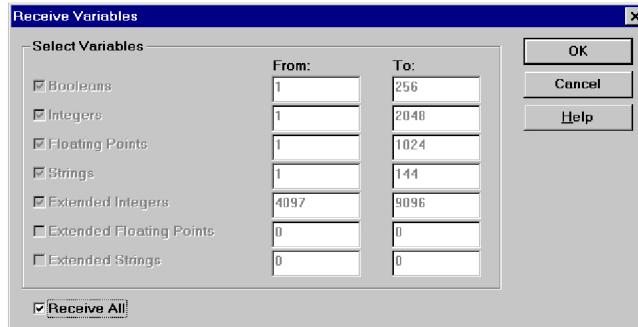

Figure 7.2: CCS Receive All Variables Screen
1. Click **Tools/Receive Variables** to open the screen in figure 7.2.